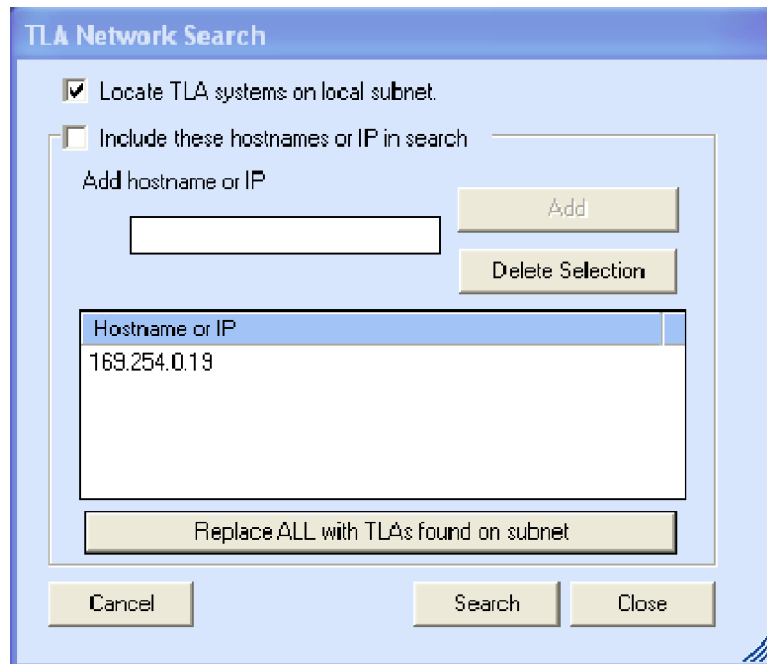

Figure 38: TLA Network Search dialog box
4. Click the binoculars icon. The TLA Network Search dialog box appears. (See Figure 38.)